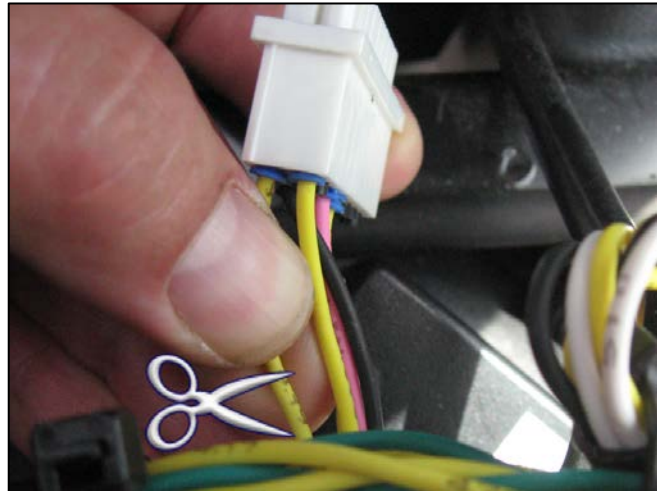

Figure 5
- B2. Locate wire **439** at **pin 1** of Gateway Module A139. (Fig 5)
- B3. Cut about two inches away (50mm) from connector. (Fig 5)